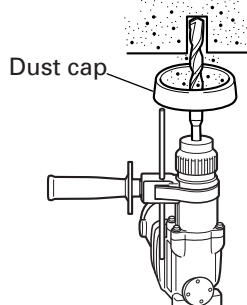
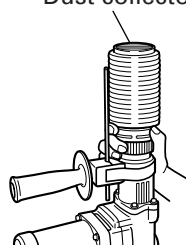

Fig. 3
Fig. 4
7. Installation of dust cup or dust collector (B) (Optional accessories) (Fig. 3, Fig. 4)
Use the dust cup by attaching to the drill bit as shown in Fig. 3.
- Installing dust collector (B)
When using dust collector (B), insert dust collector (B) from the tip of the bit by aligning it to the groove on the grip (Fig. 4)